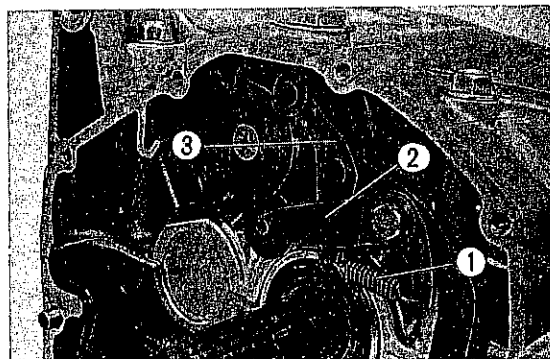

Fig. 132 ① Shift drum stopper spring
7. Attach the shift drum stopper spring to the drum stopper and the drum neutral stopper as shown in Fig. 132. Tighten the drum stop bolt and neutral stop bolt. Tighten the bearing set plate together.